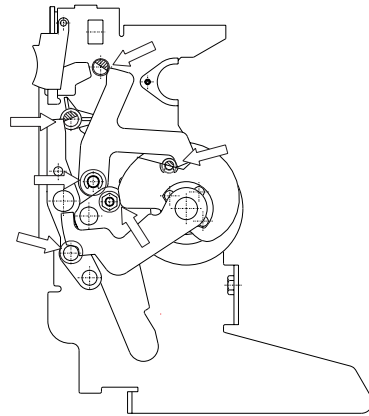

Fig. 33c
- Carry out the checks and take the action listed under item 1 of the table in paragraph 8.3.2.
- Lubricate the small opening and closing shafts and the hooks with 5 RX MOLY (OLEOTECNICA) grease (Fig. 33c). Equivalent grease: KLUBER LUBRIFICATION GRAFLOSCON A-G 1 ULTRA.